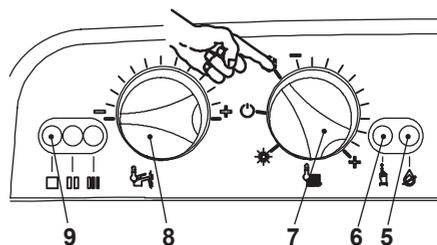

Fig. 7.10
- Set the function knob 7 as illustrated in Fig. 7.10.